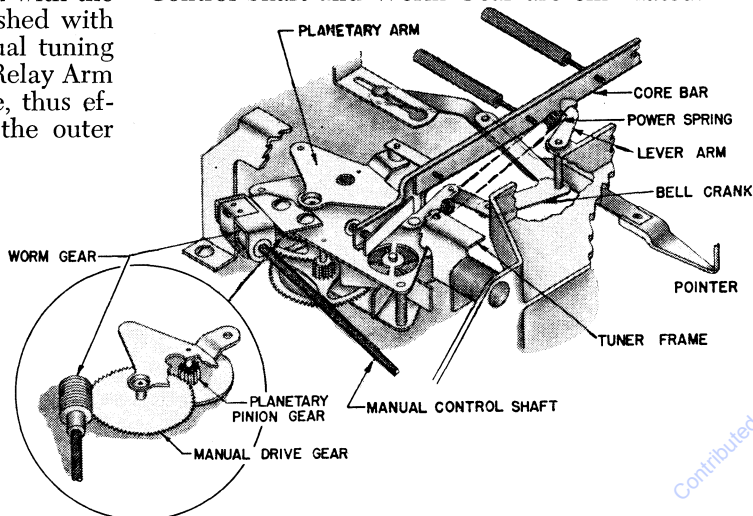

Fig. 4
Manual Tuning Gear Operation (See Fig. 4)
Pointer and Core Bar Linkage (See Fig. 4)
- D. Spring loaded dial pointer scans dial. (Fig. 4)